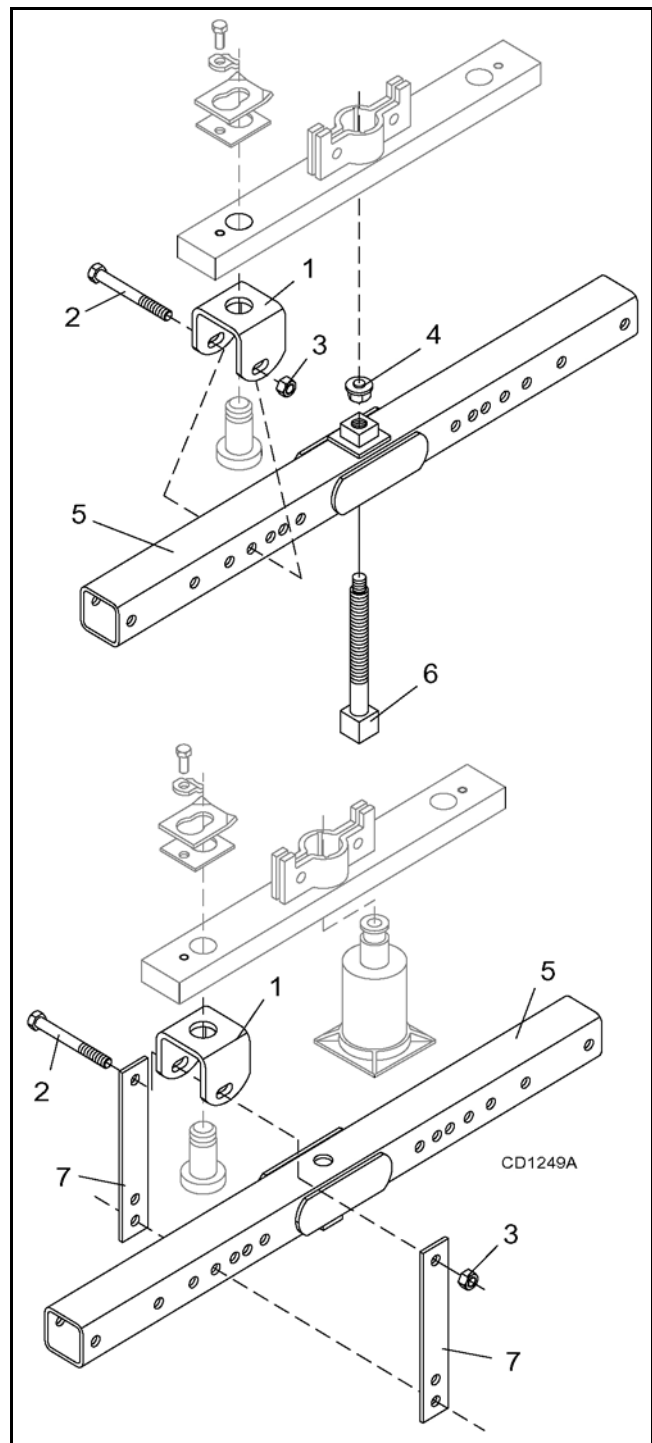

Figure 14. Crossbar Removal
NOTE: You will need to use either the puller screw (Item 6, Figure 14) or a small hydraulic jack to remove the crossbar.
3. Refer to Figure 14. Remove cotter pin from bottom of crossbar and remove nut and washer.
4. Attach a clevis (1) to each end of crossbar, using blade pins, spacers, keyhole plates, and blade pin clips.
5. Position tube assembly (5) with threaded nut toward crossbar for puller screw removal or down for hydraulic jack removal.